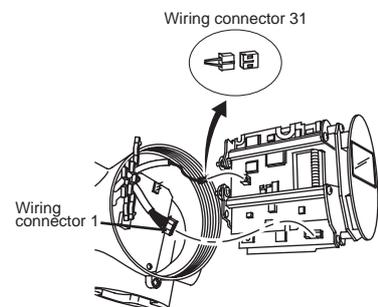

Figure 4.9.6 Remove the Wiring Connector 31
- (6) Loosen the three mounting screws while holding the assembly with your hand.
- (7) Pull the assembly straight out.
- (8) Remove wiring connector31.(Figure 4.9.6)
- (1) To replace the amplifier assembly, follow the procedures used to remove it in the reverse order.
- (2) Connect wiring connector31. (Figure 4.9.6)